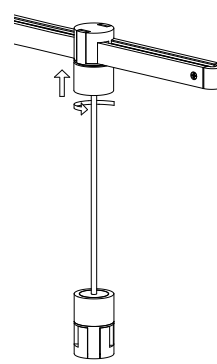

Fig. 11
3. Press the **Hanger Rod** up against the Hanger Hub and screw in the **Hanger sleeve**. Be sure that the brass contacts on the Power Bar Hanger Hub are touching those on the Hanger Rod. (Fig. 11). NOTE: Do not fully tighten.